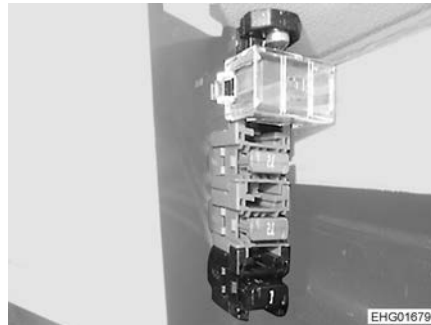

Fig. 170 Fuse holder in right-hand drive vehicles (Ford)
- Replace the fuse on the fuse holder (Fig. 170).